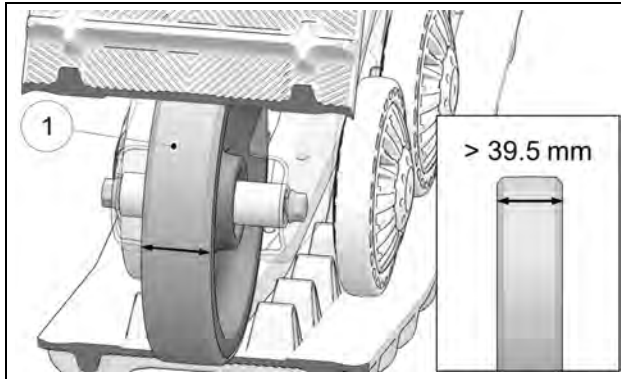

Figure 39
Verify wear on contact band (1) of 200-mm Wheels. The wheel must be replaced if the surface is worn out, cracked or has holes in it. A wheel that is excessively worn will not offer enough support for track guidance. Track guides may also wear prematurely. Figure 39.
Verify wear of guidance strips on both sides of 200-mm wheels. Replace wheel if it narrows to a width of 39.5 mm or less (42.5 mm when new). A wheel that is excessively worn will not offer enough support for track guidance. Figure 39.